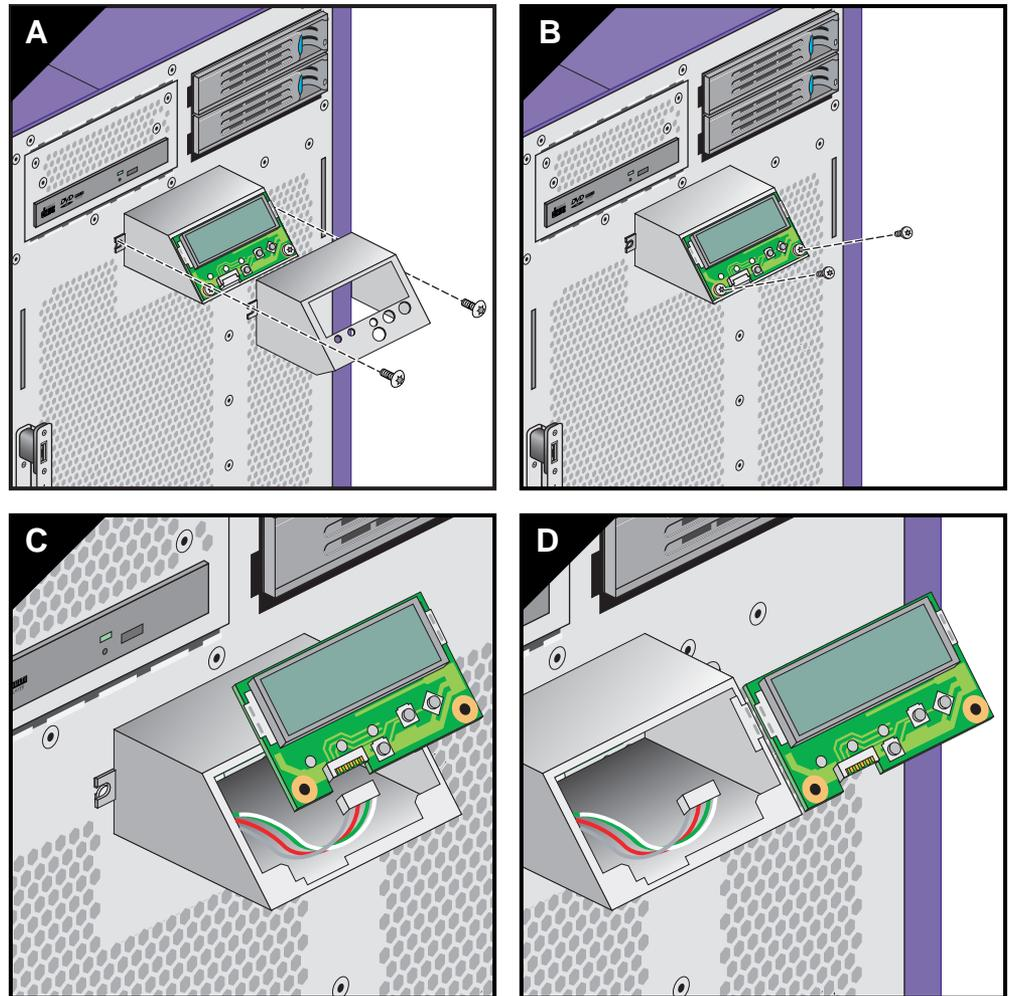

Figure 3-37 Removing the L1 Display Board
1. Remove the two screws that secure the L1 display bracket to the enclosure. Then slide the outside cover off of the L1 display (see Figure 3-37).
2. Lift the L1 display housing upward until the hooks on the housing clear the holes in the enclosure (see Figure 3-37).
3. Carefully remove the two screws that mount the L1 display board to its housing. Then, grasping the display board by the edges, separate the display board from the housing (see Figure 3-37).
4. Gently disconnect the L1 display cable from the L1 display board. Place the L1 display board in a secure location (see Figure 3-37).